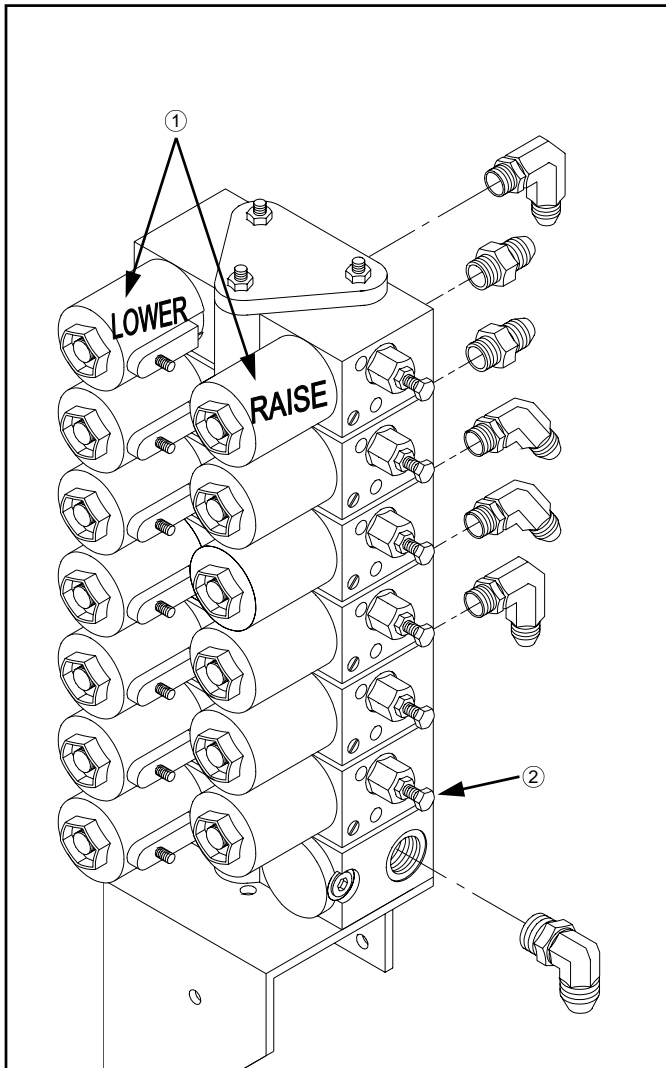

FIG 5.16
The electro-hydraulic valve which control the height of the detasseler head lift cylinders is equipped with adjustable raise and lower orifices controlled by independent coils (fig 5.16, item 1). Upon initial setup adjust the orifice screws (fig. 5.16, item 2) as follows, then see page 51 for more precise adjustment: